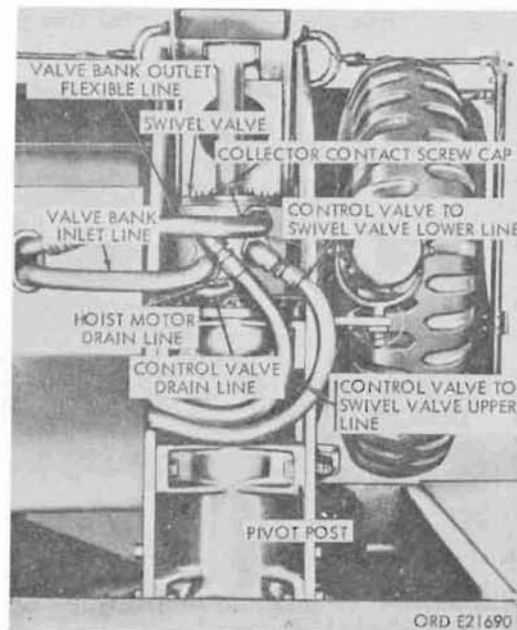

Figure 253. Spare wheel mounted on wrecker pivot post - M60 and M108
c. M60 and M108 Trucks. The M60 and M108 trucks have the spare wheel carrier mounted on the right side on the crane shipper support (fig. 253). The tire with wheel is held by three mounting posts with stud nuts.